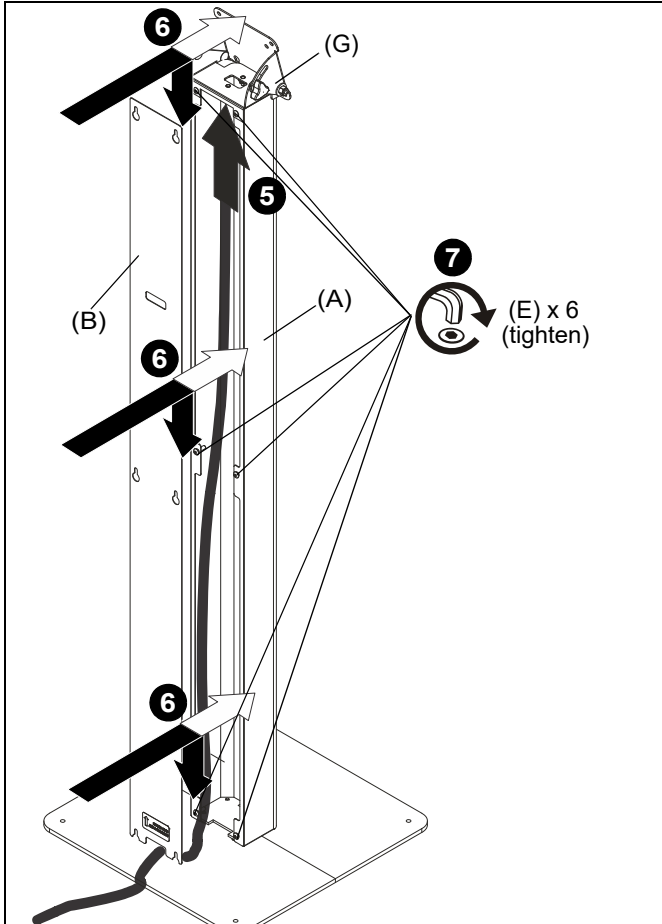

Figure 4
5. Route tablet cord (if applicable) through column (A) and through hole on VESA adapter (G). (See Figure 4)
6. Install column cover (B) onto column (A) making sure keyholes are onto screws and cable is routed through the bottom gap on cover. (See Figure 4)
7. Tighten all screws (F) to secure cover (B) to column (A). (See Figure 4)